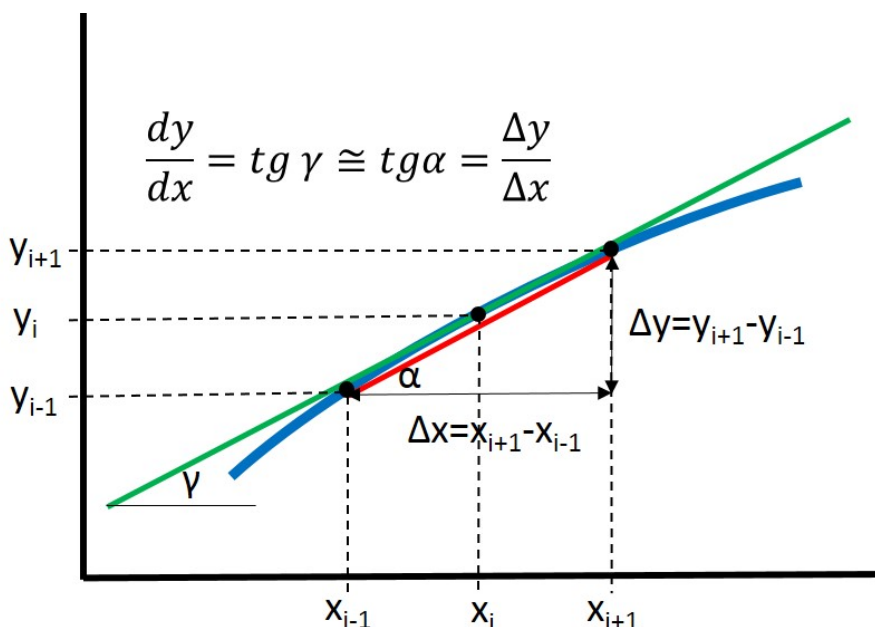

Figure 4: Numerical differentiation.
- To obtain  $\frac{dE_{\text{MF}}}{dT}$  values, calculate the derivatives (numerically) for the function  $E_{\text{MF}} - T$  (see Fig. 4).